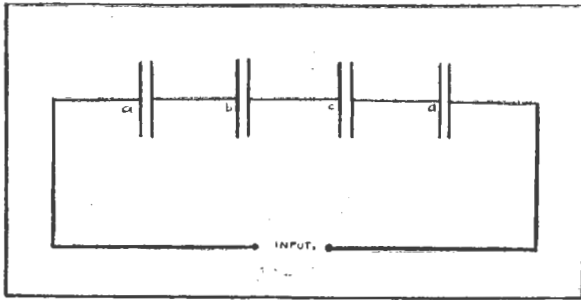

FIG. 7.
When condensers are linked in series, as in Fig. 7, the total capacity of the arrangement is the reciprocal of the sum of the reciprocals of the separate capacities. That is to say, suppose the condensers used had individual capacities of a, b, c, d . . . mfd., then the total capacity (C) of the series arrangement would be